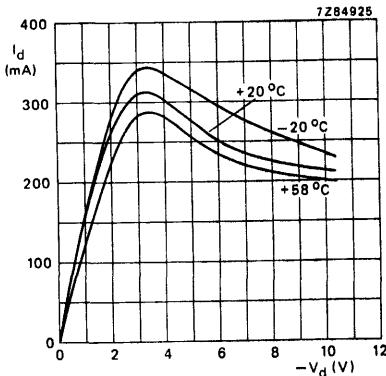

Fig. 2 D.C. bias characteristics of the Gunn oscillator for $T_{\text{hs}} = -20, +20$ and $+58^{\circ}\text{C}$.
2. The power supply should be low-impedance voltage regulated and capable of supplying approximately 1,5 times the normal operating current to initiate oscillations. See Fig. 2.